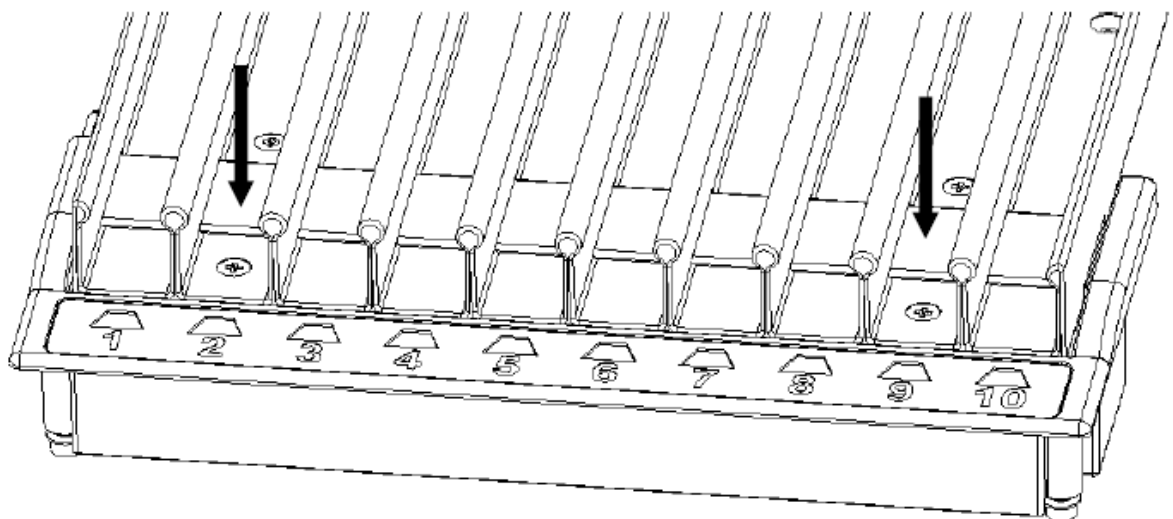

Figure L-10: Check that the Plate is Free to Move Downwards
4. After re-installing the floating plate, check that it is free to move downwards by pressing on the floating plate (Figure L-10). The plate should return to the original position upon release. This step should be done at two different positions of the plate.